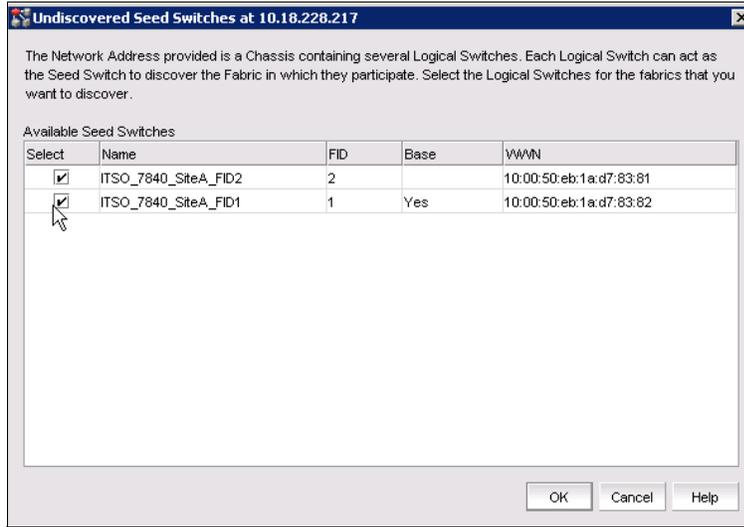

Figure 6-15 Results of fabric discovery
17. The result of fabric discovery is shown in Figure 6-15.